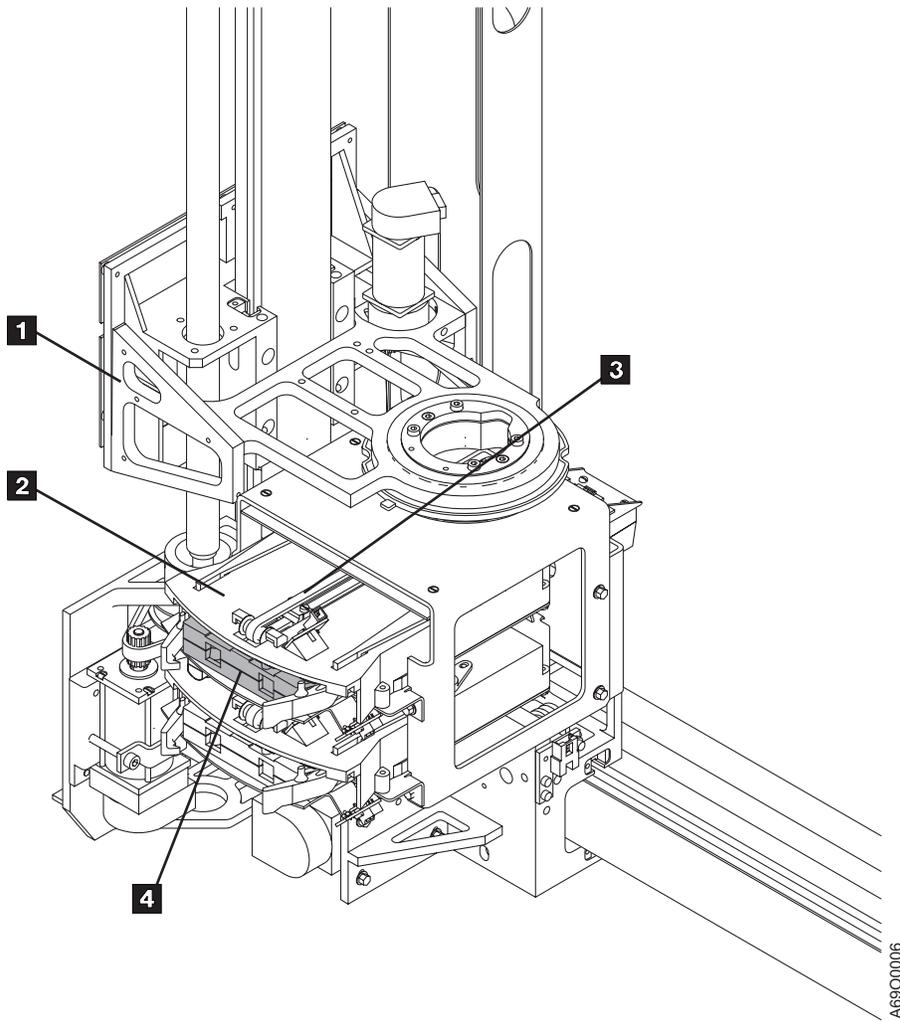

Figure 173. Manually Removing Cartridge from Dual Gripper Assembly
5. Refer to Figure 173 on page 685 and move belt **3** in a direction toward the gripper exit while manually guiding the cartridge **4** toward you.